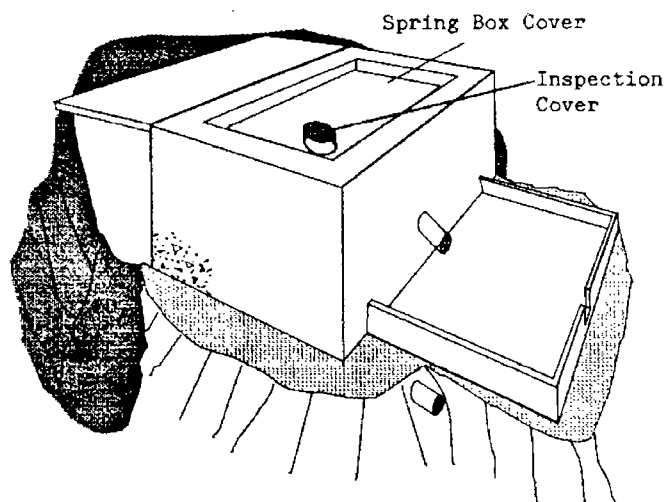

Figure 12. Finishing the box
- The area between the eye of the spring and the back of the spring box should be filled with gravel. This gravel should then be sealed on top by pouring a concrete apron over it or by adding puddled clay. This protection should be sloped so that it carries water away from the back of the box to the sides, as shown in Figure 12.